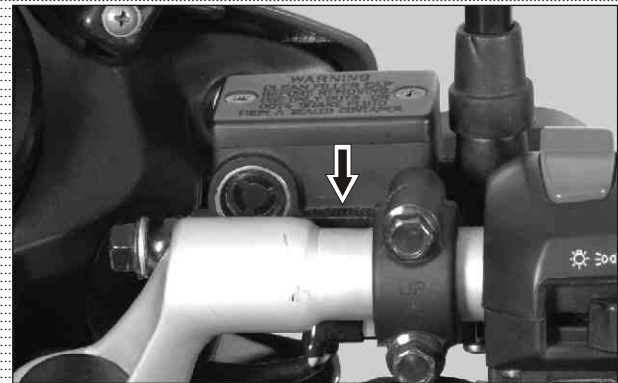

Fig. 2.61
- If the level is found to be lower than the mark 'LOWER' provided on the reservoir, replenish the reservoir with the fresh brake fluid. (Fig. 2.61)